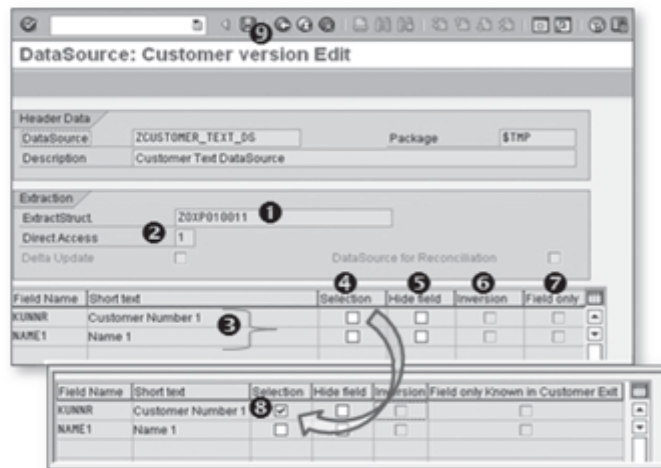

Figure 8.8 Configuring DataSource Fields
Enter the short, medium, and long text in the entry box (❷). Enter the name of Table ZCUST_TEXT in the entry box (❸). The extraction structure is created by the system by reading the definition of the table entered. Now click Save. The resulting screen is shown in Figure 8.8.
The extraction structure of the DataSource is created and given a unique name by the SAP ERP system, as shown in ❶ of Figure 8.8. The extraction structure contains fields included in the definition of the DataSource.
A DataSource with direct access can be used in configuring a VirtualProvider. By default, a generic DataSource is configured for direct access. Values 1 and 2 in this field allow direct access; value D in this field doesn't allow direct access. For our example scenario, no change is required (❷ of Figure 8.8).
Fields included in the DataSource definition of Table ZCUST_TEXT are shown in ❸ of Figure 8.8: KUNNR (Customer Number 1) and NAME1 (Name 1). Four different settings are available for each field; the significance of each is explained next.
Checking this checkbox allows you to enter selection values for this field in the InfoPackage created for this DataSource in SAP NetWeaver BW. For our example scenario, we flag this for the KUNNR field, as shown in ❸ of Figure 8.8.
If you don't want to pass a specific field value to SAP NetWeaver BW, you can select this indicator (❹ Figure 8.8).